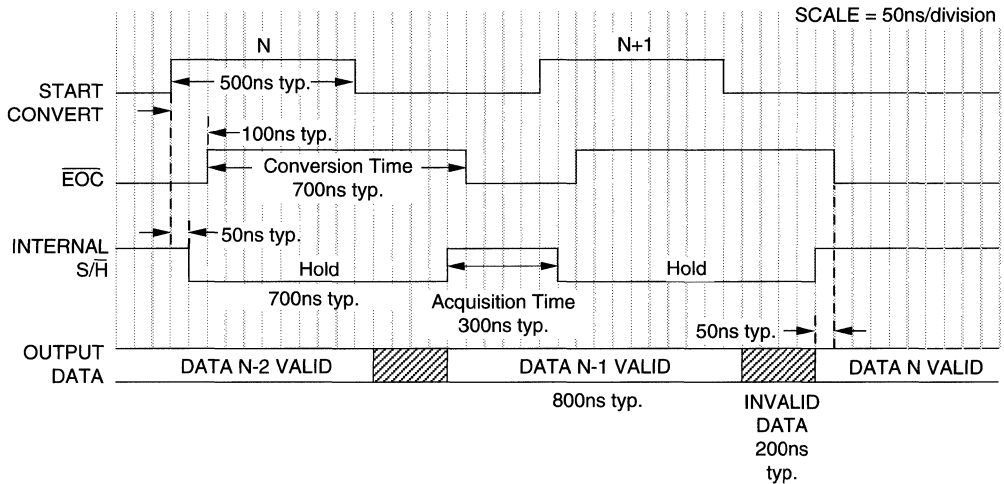

**Figure 2. Bipolar Connection Diagram**
2. The ADS-937 achieves its specified accuracies without the need for external calibration. If required, the device's small initial offset and gain errors can be reduced to zero using the adjustment circuitry shown in Figure 2. When using this circuitry, or any similar offset and gain calibration hardware, make adjustments following warmup. To avoid interaction, always adjust offset before gain. Tie pins 4 and 6 to ANALOG GROUND (pin 2) if not using offset and gain adjust circuits
(Refer to Figure 2 and Tables 1 and 2)
Connect the converter per Table 1 for the appropriate input voltage range. Any offset/gain calibration procedures should not be implemented until the device is fully warmed up. To avoid interaction, adjust offset before gain. The ranges of adjustment for the circuit in Figure 2 are guaranteed to compensate for the ADS-937's initial accuracy errors and may not be able to compensate for additional system errors.